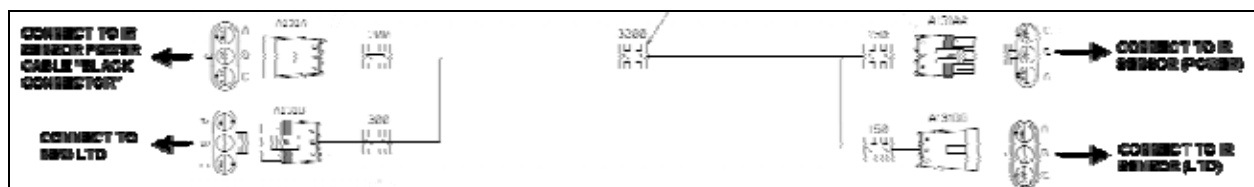

FIGURE 19: INTERFACE HARNESS #069020
- 20) Connect the interface harness as shown on figure 19 and 20.